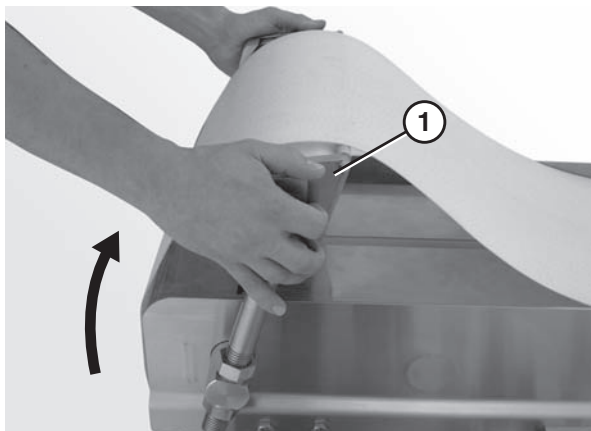

Figure 43
1. Place the idler tail (**Figure 43, item 1**) in the up position.